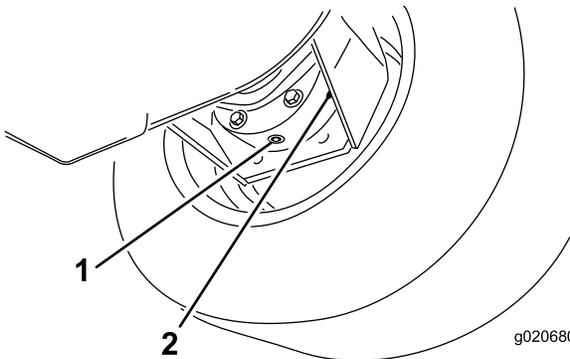

Figure 94
3. Place a drain pan under the brake housing, remove the drain plug, and allow the oil to drain (Figure 94).